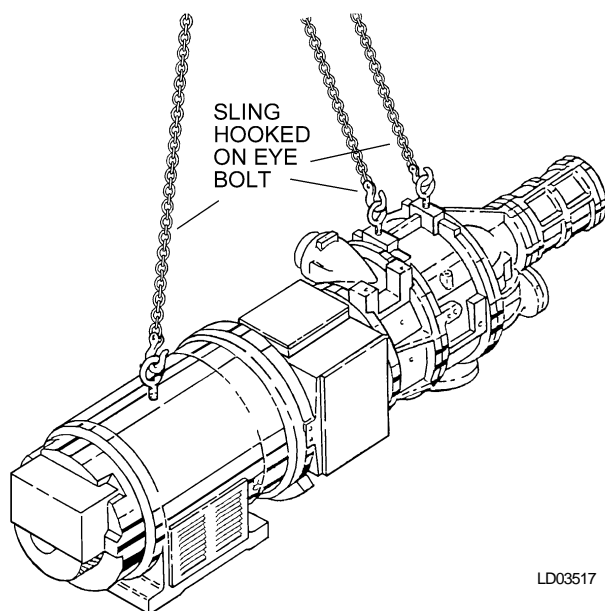

FIG. 3 – RIGGING COMPRESSOR ASSEMBLY
3. Lift compressor-motor assembly and remove packing materials and shipping skids. Keep the compressor unit supported by the hoist until all connections are finally made to the shell assembly. (Refer to Fig. 3 for rigging method.) Remove closure covers and be sure flanges are clean.